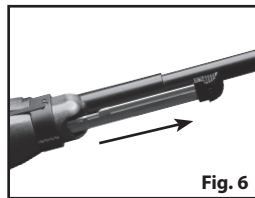

Fig. 6
4. With the reservoir door still facing upward. Pull tab out from the nose of the stock until you hear a click. (Fig. 6).